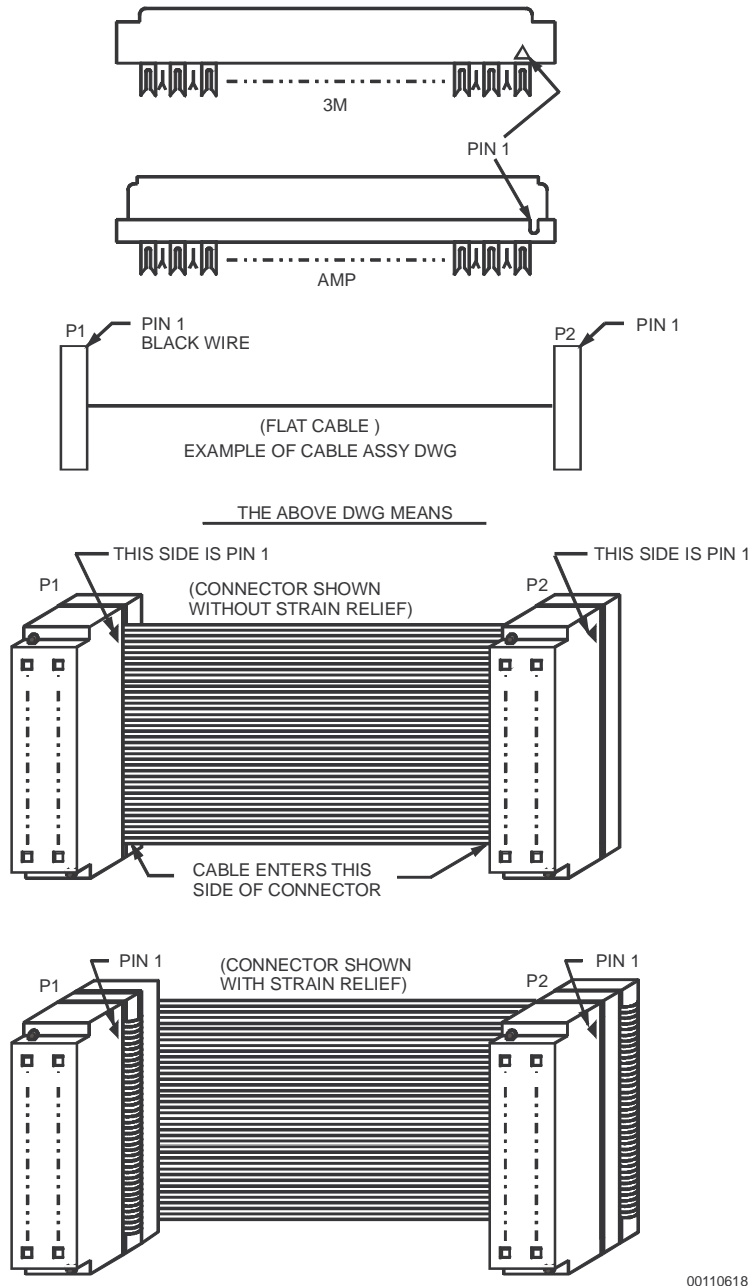

Figure 4 Flat Cable Assemblies
- b. Pin designations. The connectors used by Link, some of which are supplied by AMP and 3M, are marked to indicate pin 1 as shown in Figure 4. Pin 1 of the connectors shall align with pin 1 of the cable being used. The following color codes for various cables are used to designate pin 1: